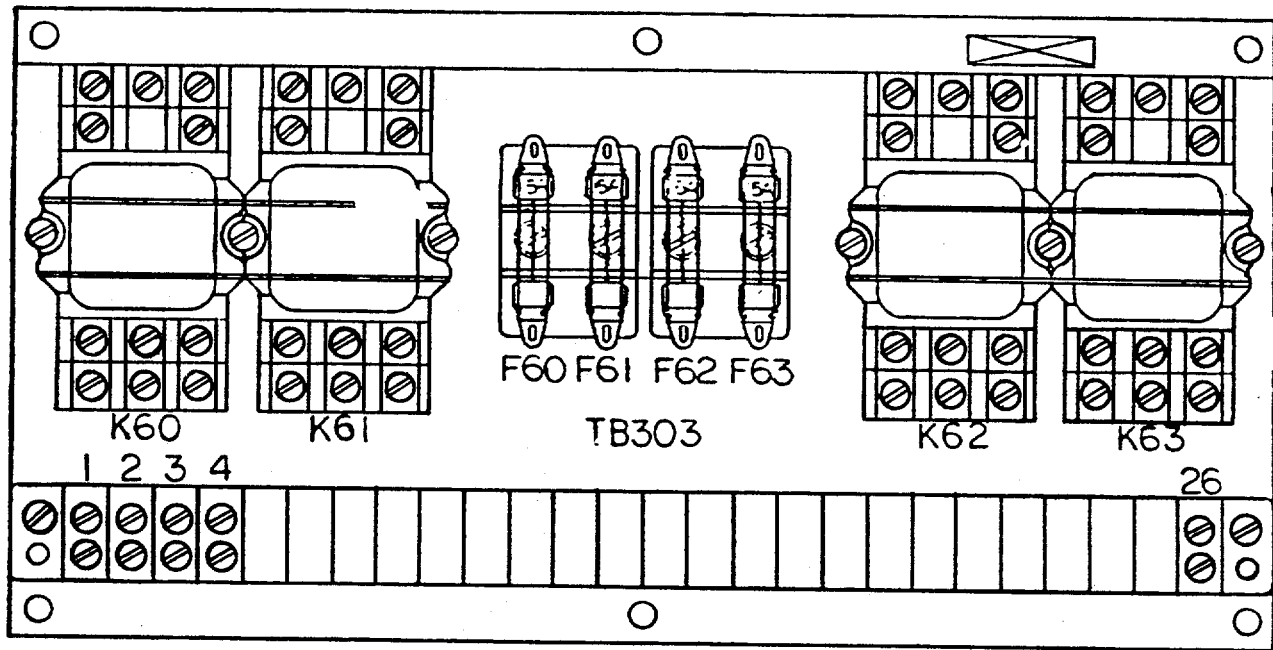

Figure 15-24. Actuator Control Relay Assembly
- a. Test. Refer to figure 15-24 and proceed as follows:
- (1) Apply 24V DC across relay coil K60, monitor contacts of relay with ohmmeter. Check that normally open contacts (3, 6, and 1, 4) are now closed and check that normally closed contact (3, 5, and 2, 4) are now open.
- (2) Remove 24V DC and check that normally open contacts (3, 6, and 1, 4) are now open, and check that normally closed contacts (3, 5, and 2, 4) are now closed.
- (3) Repeat steps (1) and (2) for relay coils K61, K62, and K63.